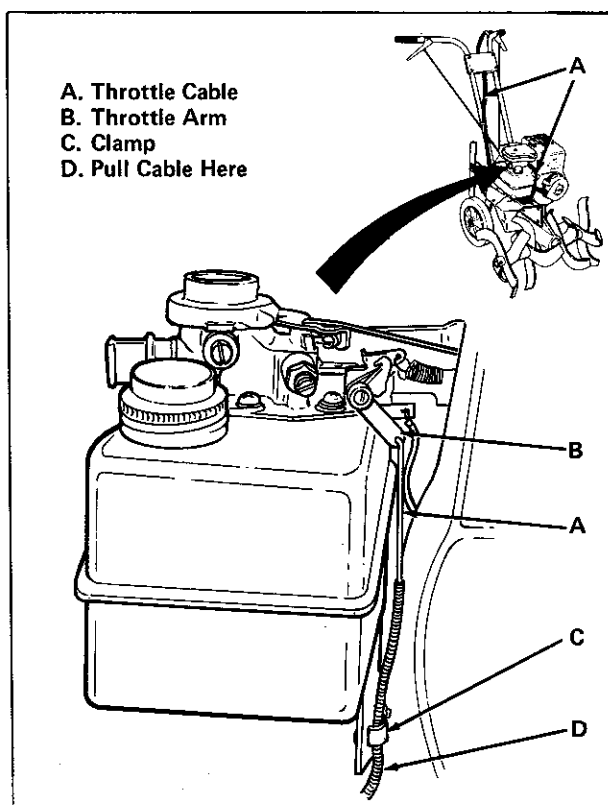

Figure 22. Throttle Cable Assembly
2. Hook throttle cable (item A, figure 22) to throttle arm (item B).